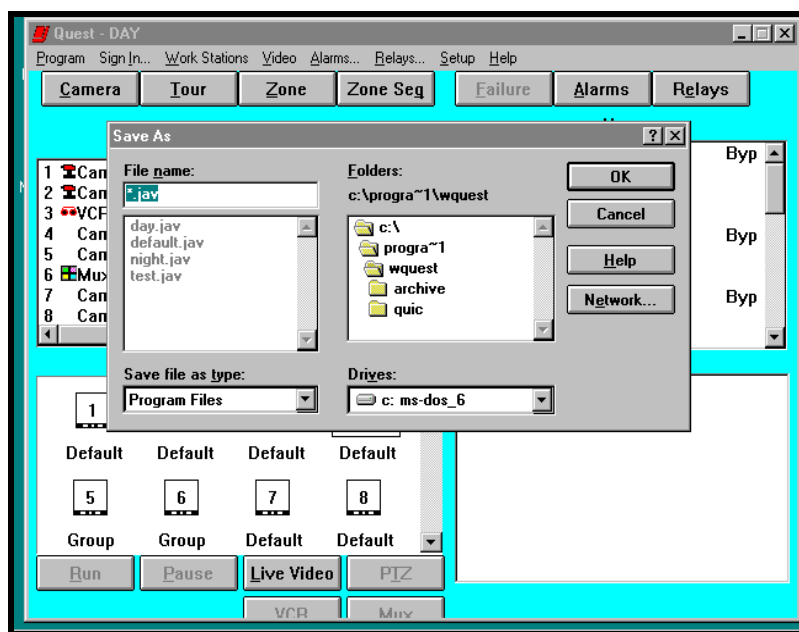

Figure 3-37. Save As Dialog Box
4. Click on **Save As** to save a program as a new name. The Save As dialog box is illustrated in Figure 3-37.